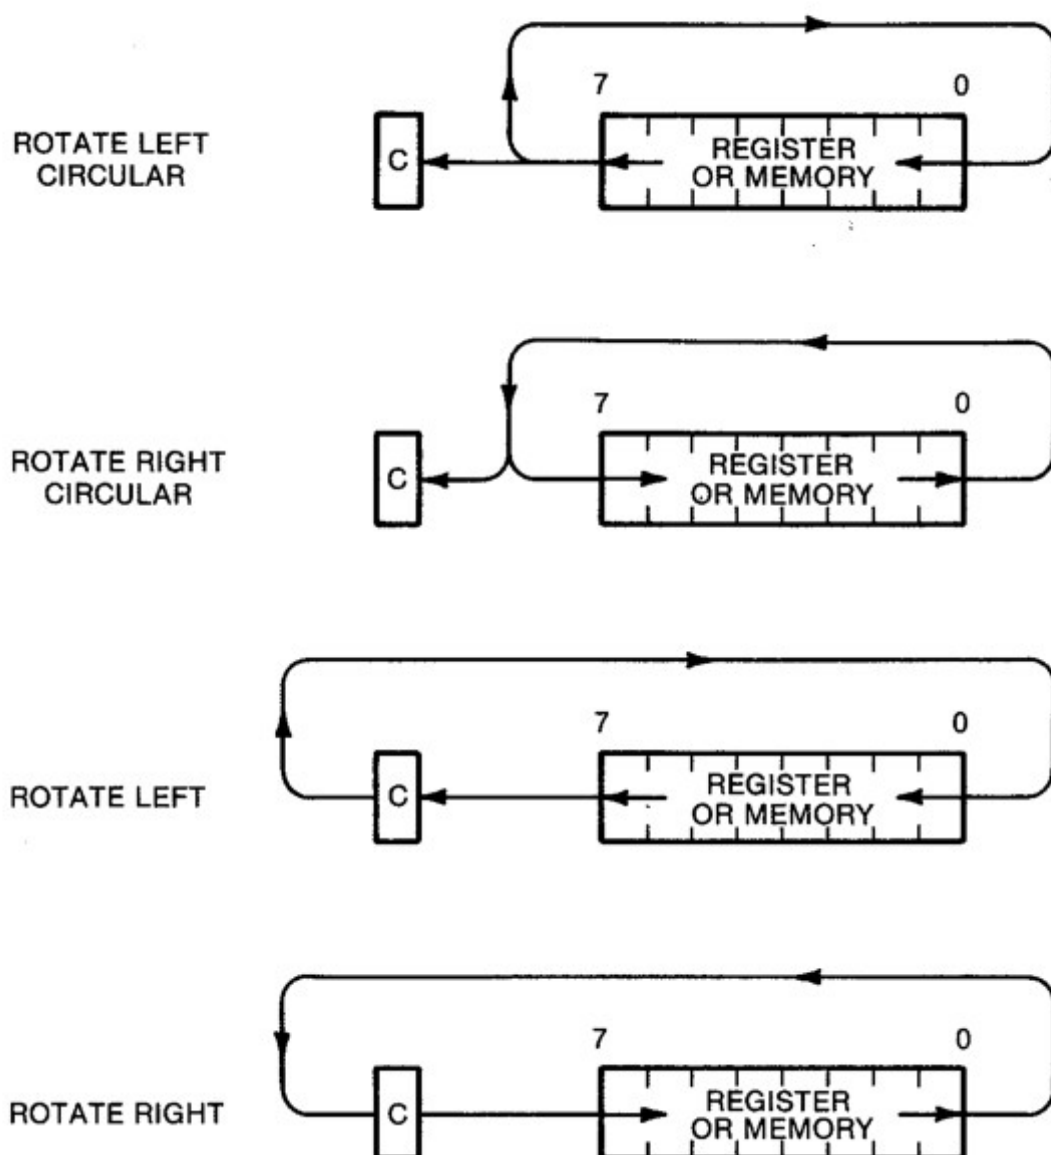

Fig. 12-2. The ROTATE operations.
16-bit addition routine in Fig. 12-2 can be greatly simplified using the 16-bit ADD instruction. See how Listing 12-5 compares to the earlier routine.
Refer to Table 12-7 and Table 12-8 as we discuss the rotate and shift operations performed by the Z80. These operations generally involve a single eight-bit value plus the carry flag. A *rotate* operation causes each bit in the data location to move one position, either to the right or left. One bit gets rotated out of the operand and into the C flag. Sometimes this same bit is shifted into the opposite end of the operand. This is the case for the eight-bit Rotate Left Circular (RLC) and Rotate Right Circular (RRC) instructions. It is also possible to include the carry flag within the rotation, making for a nine-bit Rotate Left (RL) or Rotate Right (RR). Fig. 12-2 outlines the effect of these four instructions. Note that most of these instructions affect the entire